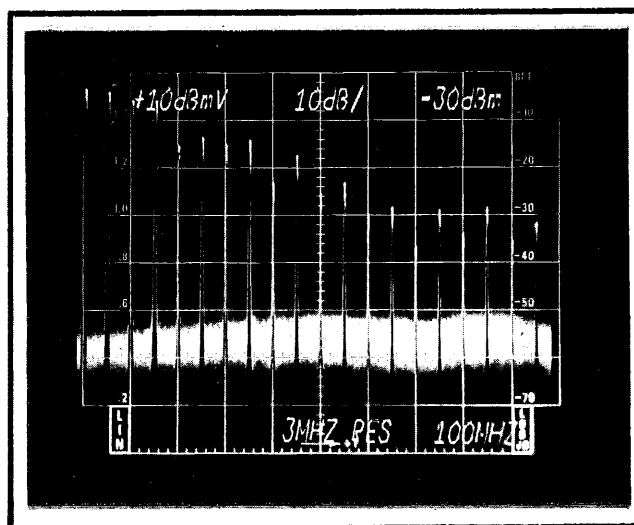

Fig. 3-1. 50 MHz markers across a 1000 MHz display.
c. Check the 1000 MHz span for 50 MHz markers out to 900 MHz. Marker amplitude will decrease towards the upper end of the spectrum. See Fig. 3-1.